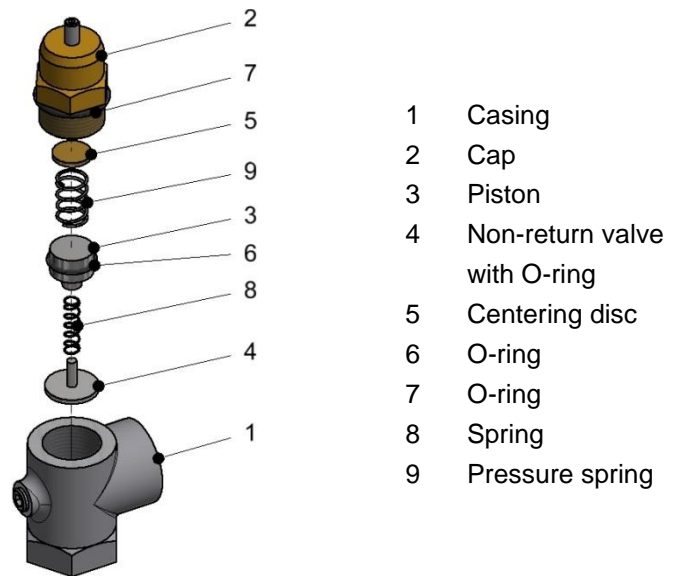

Fig. 53: Design minimum pressure valve
2. To service the minimum pressure valve, the brass cap (Fig. 53, Pos. 2) at the minimum pressure valve must be removed.
5. Assemble the minimum pressure valve according to set-up Fig. 53.